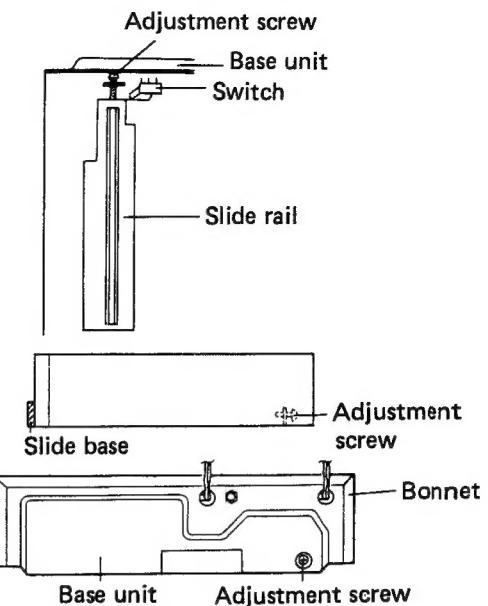

Fig. 1-5 Slide base position adjustment
2. Then while pushing the drive lever rack and slider towards the front panel, insert gear (F) into the escutcheon cover gear (F) mounting boss. Be careful not to push the slider too firmly (towards the front panel) since the slide base cover might also move.
3. Secure gear (F) by screwing in the relevant screws. After tightening the screws, press against the top of the door to check that the door is not loose.
- D. This adjustment simply involves turning the adjustment screw from the rear of the turntable as shown in Fig. 1-5. A full turn of the screw changes the slide base position by about 0.5mm.
6. Undo screws ⑤ and remove the lead guide. Then without applying too much force, carefully disconnect the leads from the tonearm and phono motor.
7. Remove the tonearm section by undoing screws ⑥.